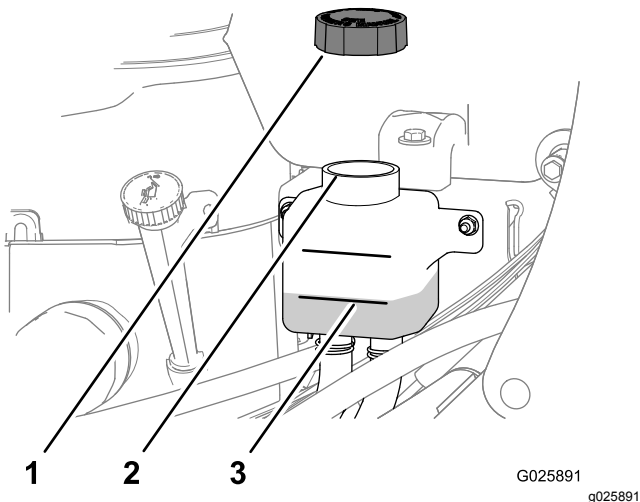

Figure 5
3. Check the hydraulic-fluid level in the expansion tank (Figure 5).
4. If necessary, add the specified transmission fluid until the fluid level is at the Full Cold line of the expansion tank (Figure 5).